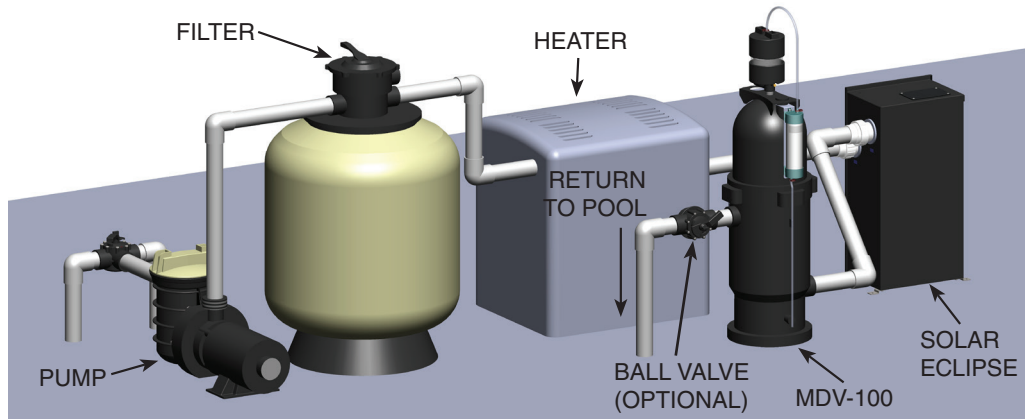
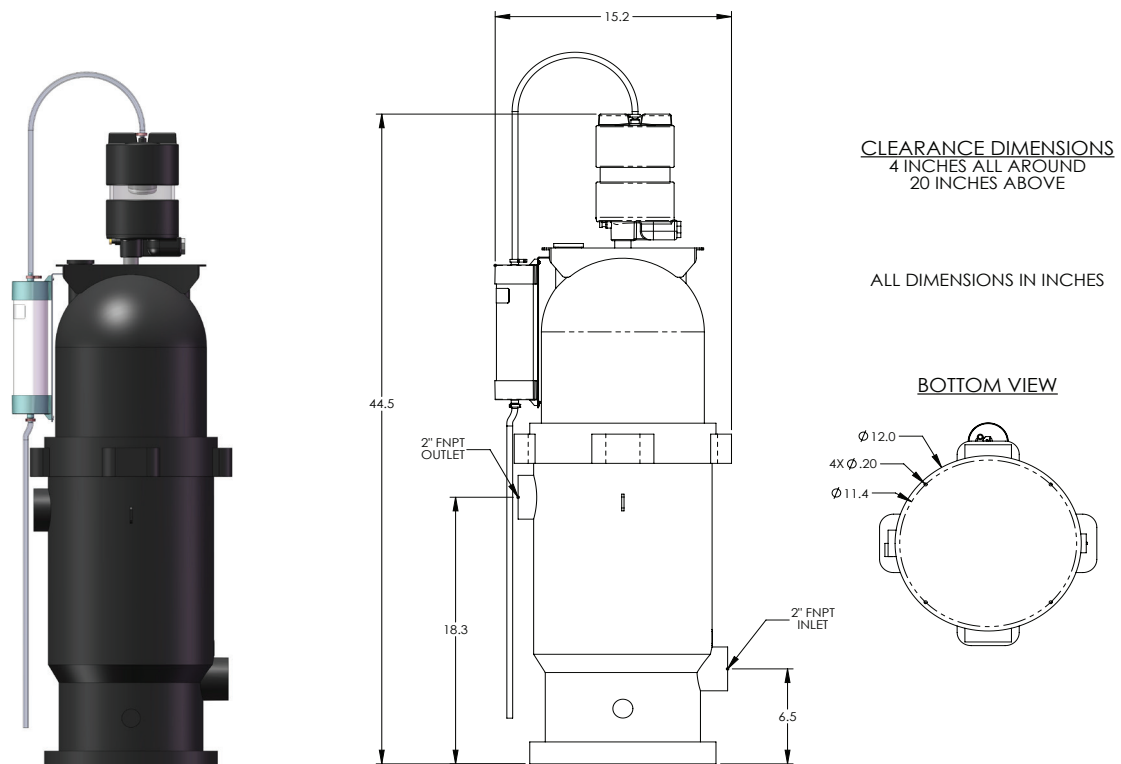

Figure 1: System View
Figure 2: Critical Dimensions
1. Plumb the MDV-100 downstream of the Solar Eclipse as seen in Figure 1. The MDV-100's inlet and outlet fittings are 2" FNPT, use the correct fittings and thread sealant to plumb into the circulation loop. Refer to Figure 2 for footprint and clearance dimensions before placing the MDV-100 on your equipment pad.
7. If the MDV-100 is located well above the water line, an additional ball valve may be needed to maintain an adequate water level in the Housing. Install the ball valve just after the MDV-100 outlet as shown in Figure 1.